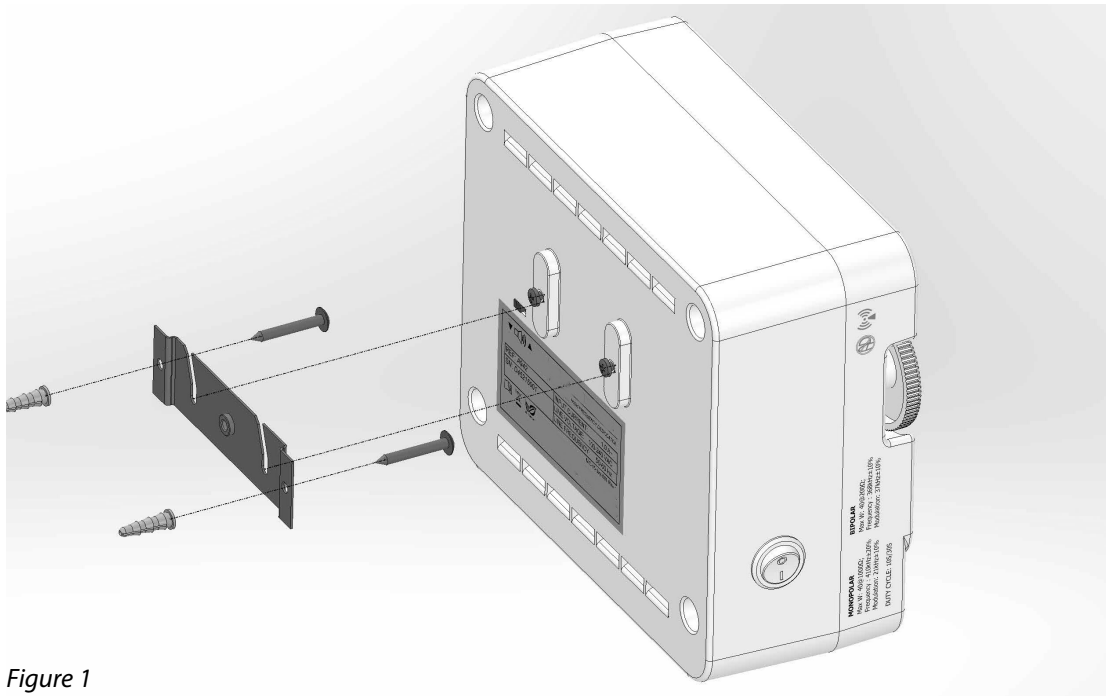

Figure 1
1. Mount the High Frequency Desiccator on the wall or optional mobile stand using the standard mounting kit (see figure 1). Do not operate the unit in the horizontal position, as liquids may spill into unit.